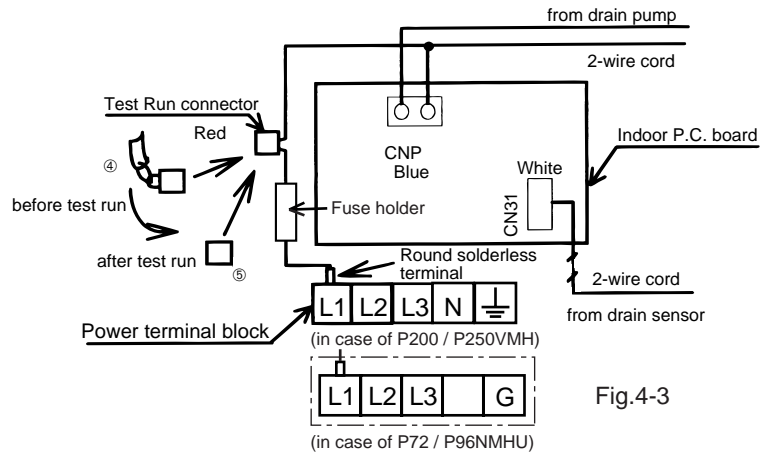

Fig. 4-3
2. Connecting the pump wires to the control box of the indoor unit (Fig. 4-3)
- a) Connect the blue connector of the 2-wire cord to CNP on the indoor P.C. board inside the control box, and fix the fuse holder to the specified position (Photo 4-4) inside the control box using the PPT screw ⑩. The round solderless terminal must be connected to [L1] of the power terminal block.